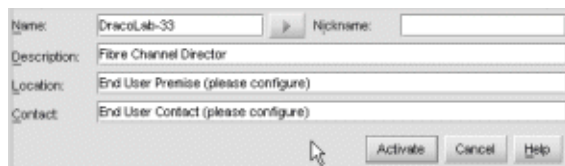

Figure 44: Configure Identification dialog box
1. At the **Hardware View** page, choose **Configure > Identification**. The Configure Identification dialog box displays, as shown in Figure 44.